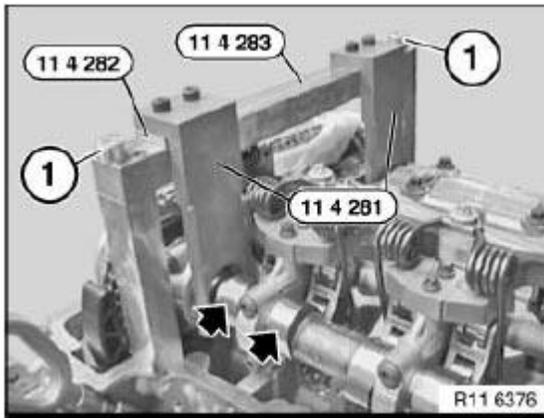

Fig. 173: Identifying Special Tools
Secure special tool 11 4 283 on cylinder head with screws (1). See Fig. 173.
NOTE: Fit special tool 11 4 282 underneath on inlet side. See Fig. 173.
Mount special tool 11 4 281 on inlet and exhaust camshafts. See Fig. 173.